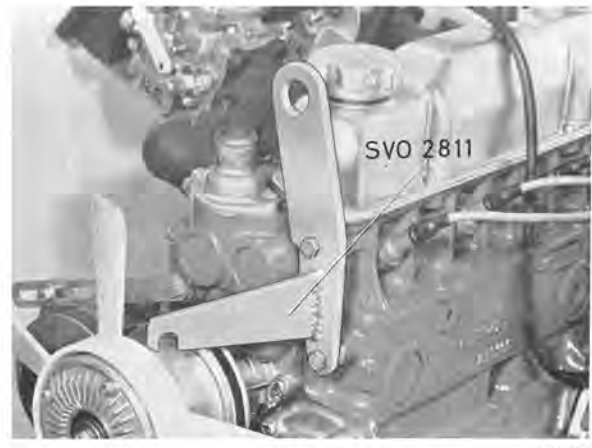

Fig. 2-13. Lifting lug 2811 on engine front end
10. Fit lifting lug 2811 to the front end of the engine as shown in Fig. 2-13 and lifting arm 2812 on the engine rear end as shown in Fig. 2-14. Prop up under the vehicle.
26. Fit lifting lug 2811 to the front end of the engine and arm 2812 to the rear of the engine (see Figs. 2-13 and 2-14). (Note that 2812 should be provided with a recess as described in a separate workshop bulletin.)